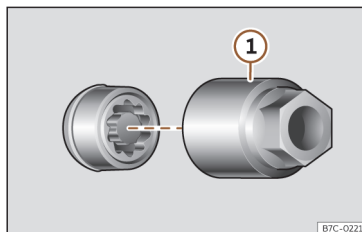

Fig. 243 Anti-theft wheel nut with cap and adapter.
- Insert the special adapter >>> **Fig. 243 ①** (vehicle tools >>> page 338) onto the anti-theft wheel nut and push it on as far as it will go.